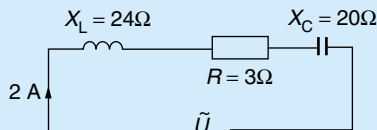

Figure 8
16. A coil of resistance $20\ \Omega$ and inductance 0.08 H is connected to a supply at 240 V 50 Hz . Calculate (a) the current in the circuit, (b) the value of a capacitor to be put in series with the coil so that the current shall be 12 A (CGLI) (Figure 8)
17. For the circuit shown in Figure 8, the voltage V is